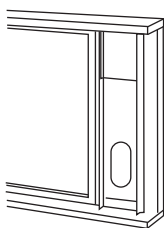

Fig.14
3. Cut the foam seal(adhesive type) to the proper length and attach it on the top of the window. Show as in Fig.14.